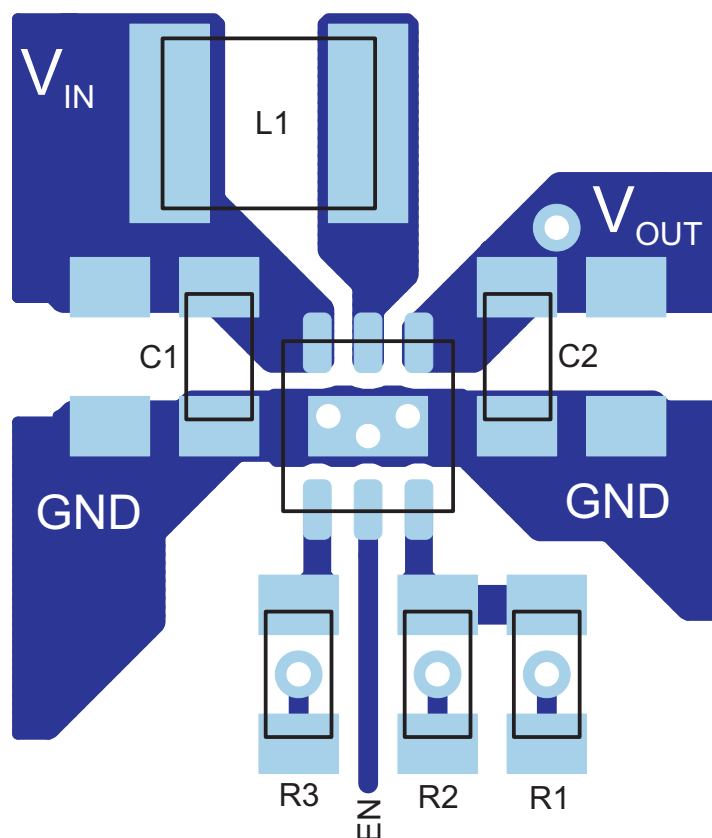

图 25. PCB Layout Suggestion
- The feedback divider should be placed as close as possible to the control ground connection. To lay out the control ground, short traces are recommended as well, separated from the power ground traces. This avoids ground shift problems, which can occur due to superimposition of power ground current and control ground current. See FIG 25 for the recommended layout.